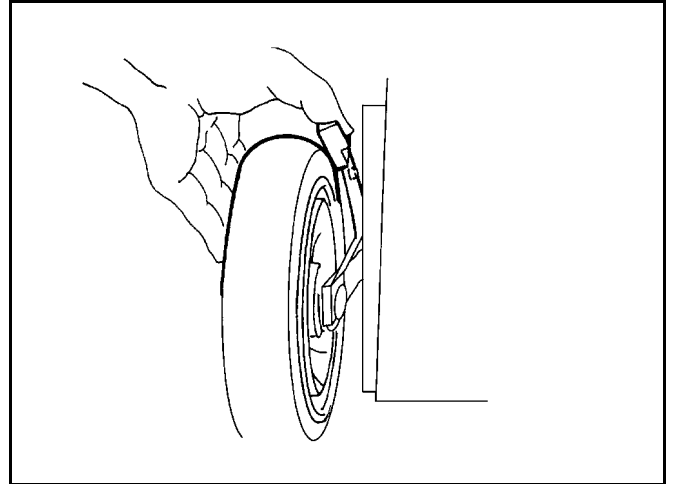

Figure 26
2. For easier adjustment, lift housing up so wheels are off the ground. **Do not place hands under deck to lift housing.** Squeeze adjustment lever toward wheel and move lever to desired setting (Figure 26). Ensure pin on adjustment lever engages notch in mower housing. Adjust all wheels to the same setting.